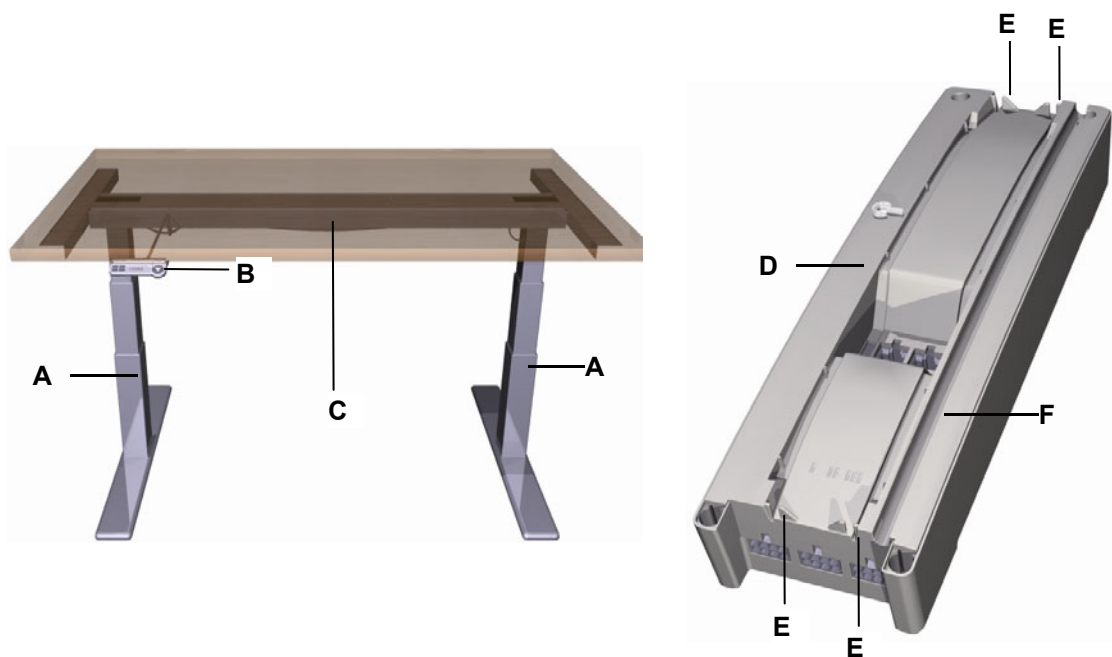
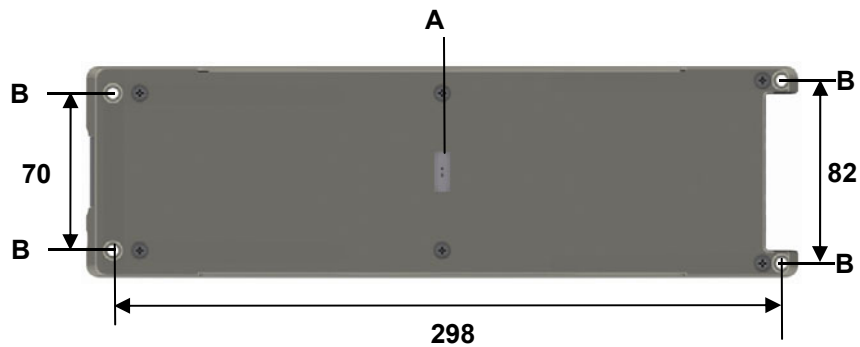

Figure 15 Table with attached Motion Manager 2/3 control unit and lifting columns
Figure 17 Dimensions of the Motion Manager 2/3 control unit, bottom view (in mm)
The control unit should be mounted in an appropriate manner under the table (refer to Figure 15). The control unit should be attached as close to the middle of the table as possible in order to ensure that the optical sensor functions properly. The control unit should lay flat and should not be subject to any torsion. A gap of at least 0.5 mm must be left between the sides of the control unit and the cross bars.
There are four screw holes located in the bottom of the control unit to use for mounting (refer to Figure 17). The connecting cable should be routed through the cable duct and cable guides (refer to Figure 15).
| | <p>A sensor is located on the bottom of the control unit (labelled A in Figure 17). The accompanying label (included with delivery) should be used to ensure that the sensor functions correctly. The label should be positioned on the table where the sensor will contact it.</p> |
- 3 Screw the control unit onto the table. Use the mounting holes (B) shown in Figure 17 located on the bottom case of the control unit. Use screws meeting the requirements of DIN 7981 with \varnothing 4.8 mm and of suitable length (28 mm plus the screw-in depth into the table, screw head: \varnothing 9.5 mm).